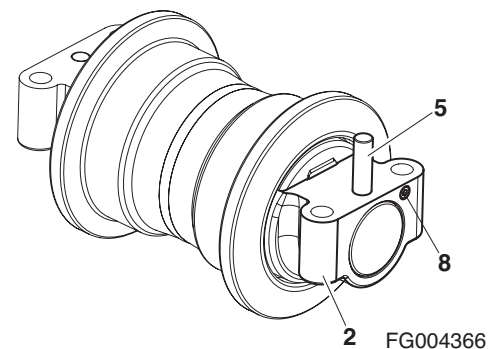

Figure 27
2. Pull the pin (5, Figure 27) from the collar.